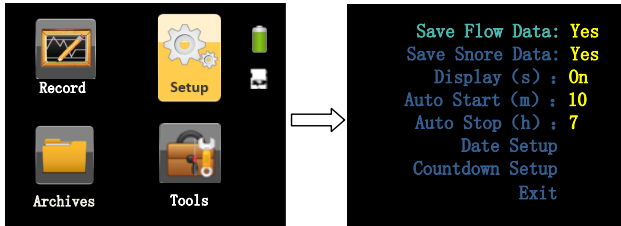

Figure 1-13 "Setup" interface
adjust settings, and press the **On-Off / OK** Button  $\text{①}/\text{⊙}$  to confirm the adjustment, as shown in Figure 1-13.